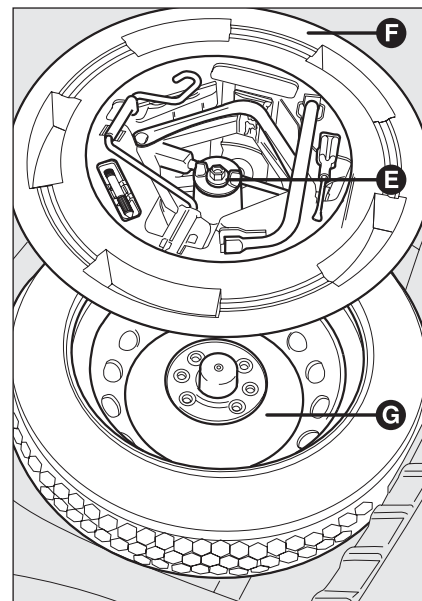

fig. 10
- Stow the space-saver spare wheel **G**-fig. 10 in the space provided in the boot;